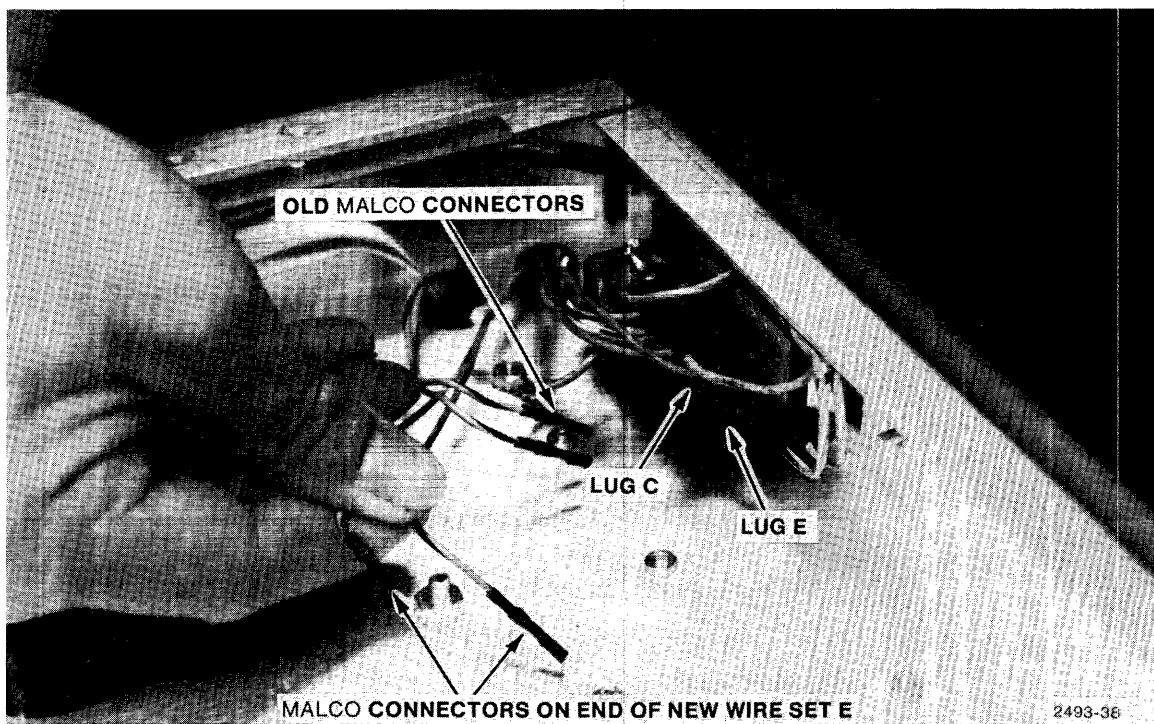

Figure 7-12. Placing new leads on line filter.
- t. Wire set E must now be attached to the line filter (Figure 7-12).
- (1) Thread the end of wire set E with MALCO connectors up into the cabinet chassis from below.
- (2) Remove and discard existing MALCO connectors (brown and gray/brown and red) from line filter.
- (3) Plug in MALCO connectors on wire set E to line filter: brown and gray to lug C, brown and red to lug E.